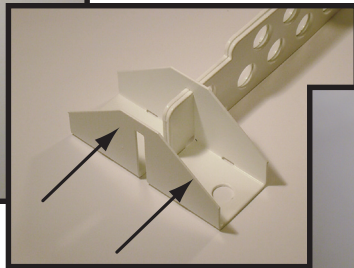

FIGURE 2b
- ii. Mount Cross Member Support ends of the mated Cross Members (as shown in figure 2b).